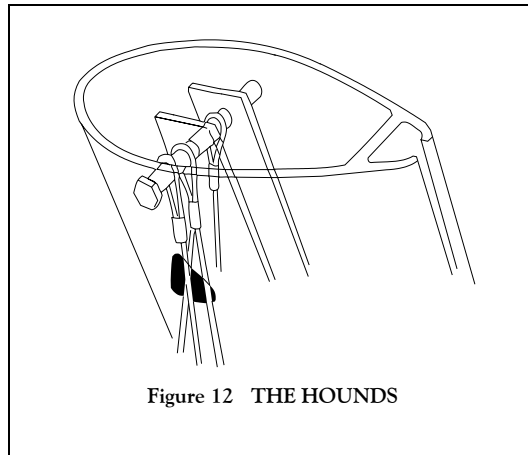

Figure 12 THE HOUNDS
**Installing the standing rigging** — Several feet down from the top of the mast is the place where the jib and spinnaker halyards enter the mast through sheaves, usually called the "hounds." Older masts used external "tangs" to attach stays here. All masts made since about 1971, however, contain a heavy stainless steel pin that runs all the way through the mast from one side to the other (see Figure 12). This arrangement very effectively achieves its purpose of minimizing windage.